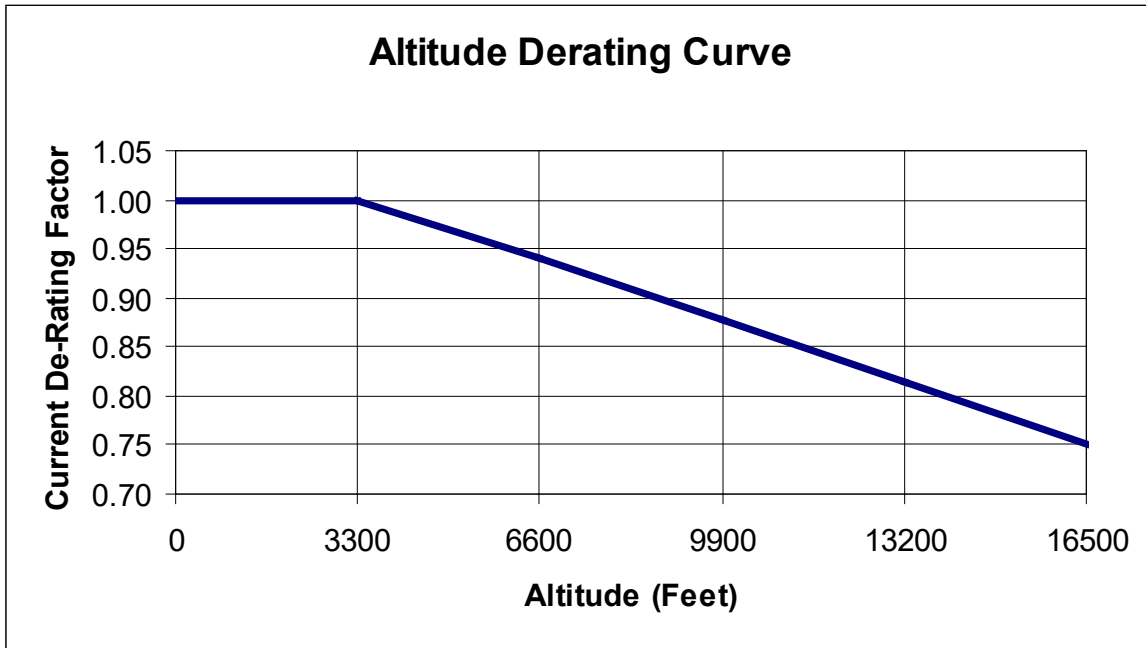

Figure 3-1: Altitude Derating Curve
- Altitude:** 3,300 feet above sea level without derating. See Figure 3-1: Altitude Derating Curve (p7) for derating information.